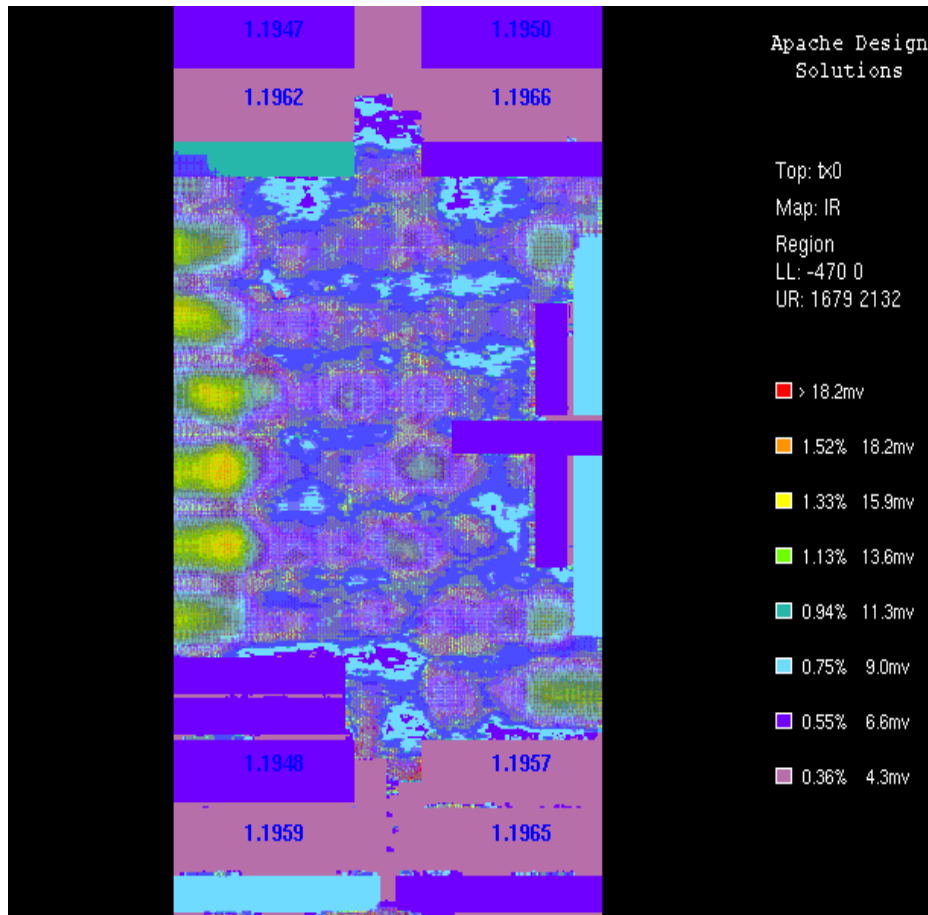

Figure 7-9 Static IR drop map after FAO operations
3. The screen and log file output summarizing the results from this run is shown below, and are shown graphically in Figure 7-9.